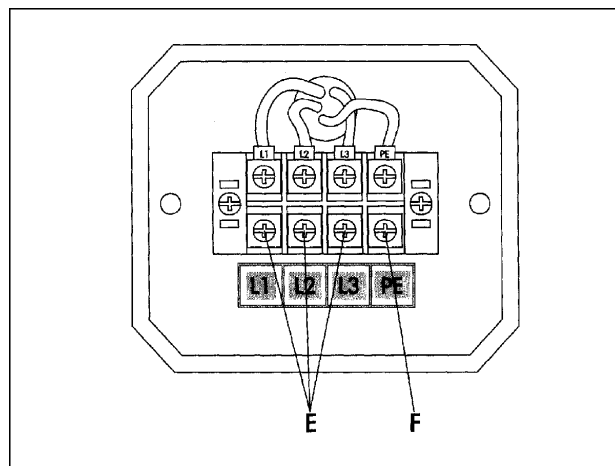

FIGURE 10
4. Connect the three power lines to terminals L1, L2 and L3, as shown at (E) Figure 10. Also connect the green ground wire to terminal (F).
5. Reassemble the clear plastic insulator (C) and the terminal strip cover (B).